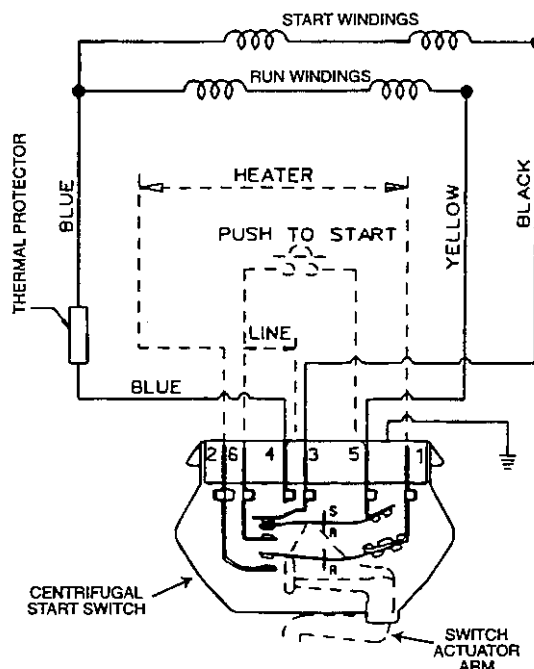

Figure 2-15
Two test leads are required to check operation of the dryer drive motor. To check the motor for operation, hook up the test cord to terminals 4 and 5, (See Figure 2-15).
2. Place ohm meter leads to terminals 1 and 2 (Figure 2-15).